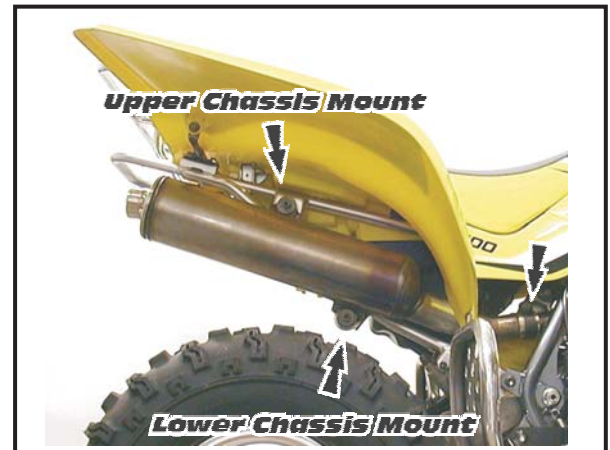

Fig. 3
14. Mount muffler clamp to upper chassis mount using supplied bolt, washer and spacer. (See Fig. 3)